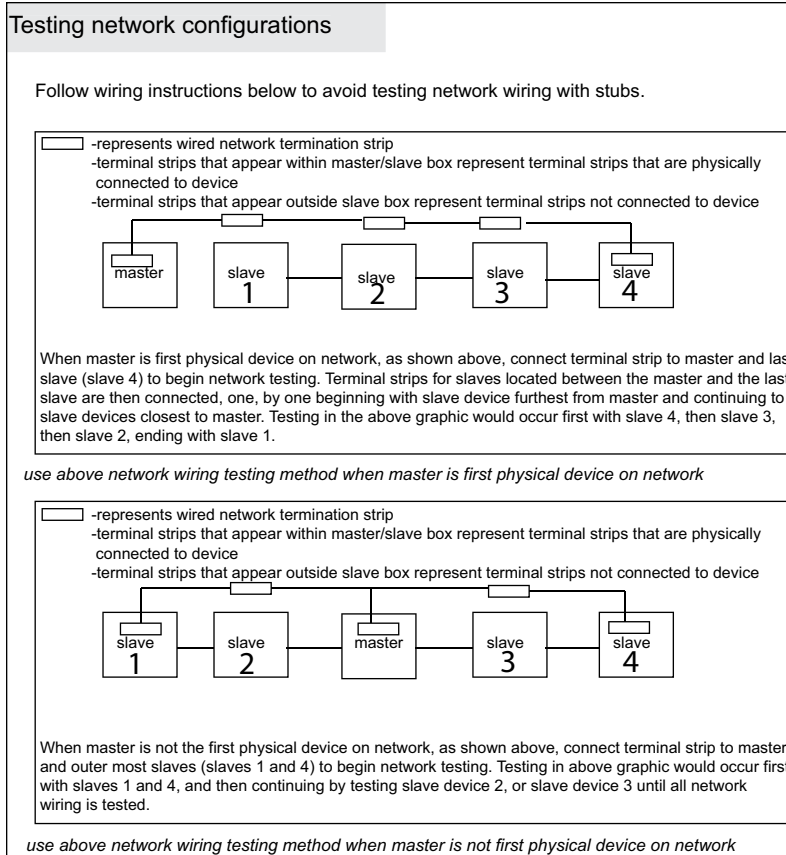

Figure 3.29
- *For testing - If the master is not the first physical device on the network, place network terminal strip on the master and on the first and last physical devices on the network. (In this case two slaves will need to be tested at the same time.) - figure 3.29.